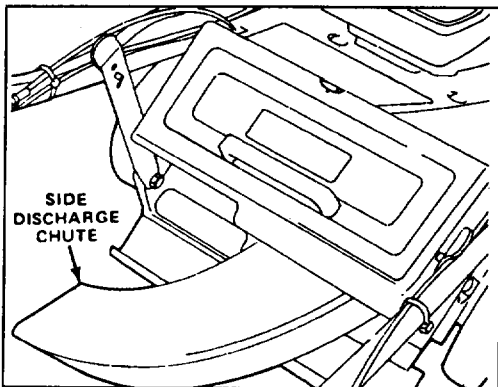

Figure 23
1. **Side Discharge Kit, Model No. 59112**—Installs in seconds. Rear mounted in place of grass bag. Disperses clippings while trimming on both sides (Fig. 23).